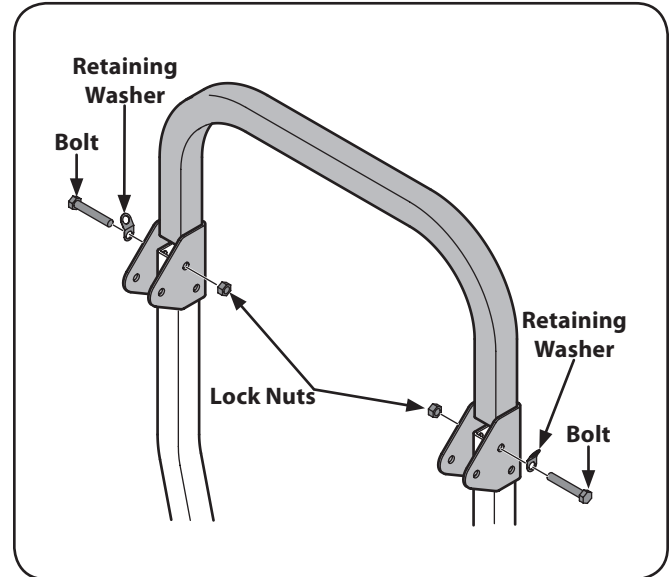

Figure 3-4
4. Install the upper ROPS section onto the lower ROPS “posts”. Install the bolts and nuts. See Fig. 3-4.